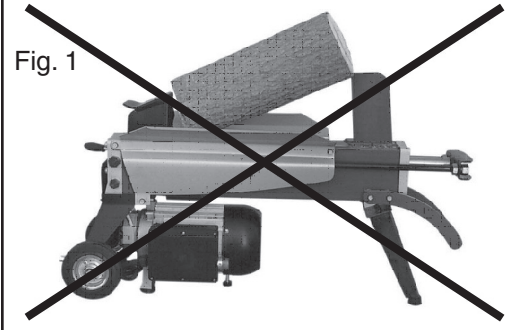

Fig. 2
2. Once the log pusher completely stops at its starting position, insert a wood wedge under the jammed log. SEE FIGURE 2.